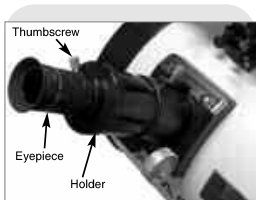

Fig. 10a: Insert eyepiece into holder and tighten thumbscrews.
10. **Insert the eyepiece: Schmidt-Newtonian and Newtonian models (Fig. 10a):** Lift to remove the dust cap from the eyepiece holder on the focuser assembly. Set the dust cap aside in a safe place and replace it when you have finished observing to protect the eyepiece assembly. Back off the eyepiece thumbscrews (**1, Fig. 1a**) and insert the supplied SP 26mm eyepiece (**3, Fig. 1a**) into the eyepiece holder. Tighten the holder thumbscrews to a firm feel to secure the eyepiece.